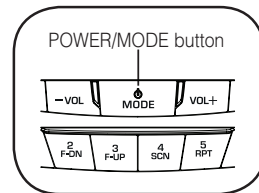

Figure 5
1. Press POWER/MODE BUTTON (Figure 5) to switch on A2DP mode with condition of Bluetooth must be paired and connected.